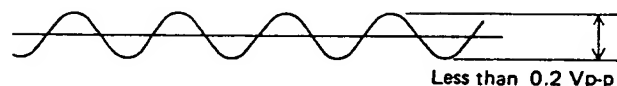

Fig. 6
1) Adjust VR7 to minimize waveform amplitude. See fig. 6.